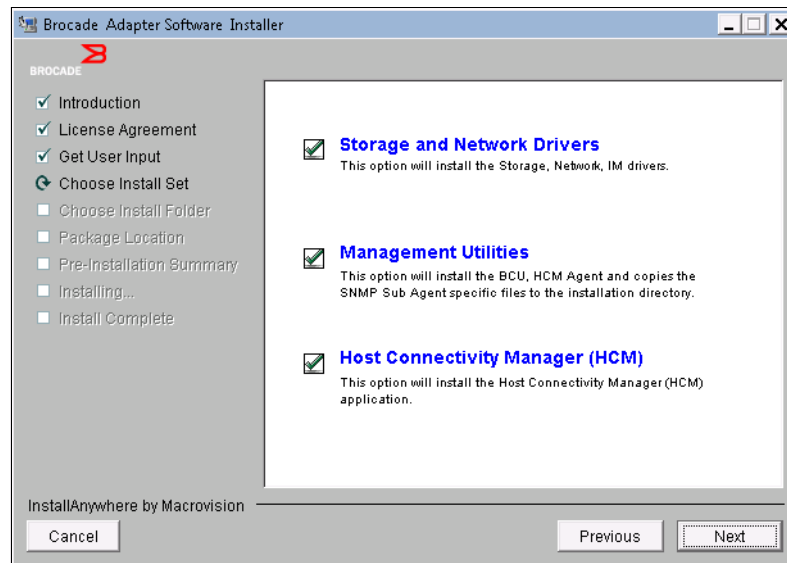

Figure 7-96 Selecting the parts of the software to install
4. Select the parts of the software you want to install (Figure 7-96). In this example, we select the default. Then click **Next**.